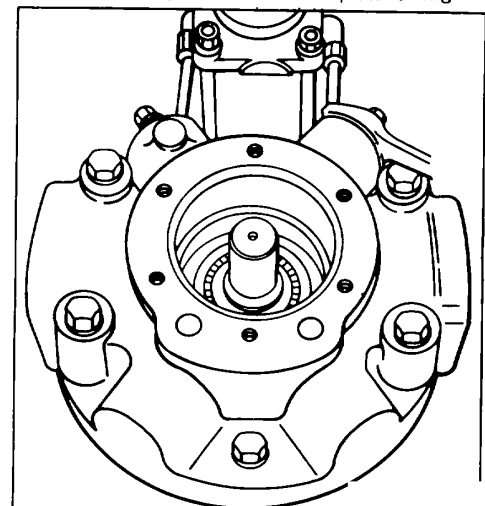

Figure 110
4. Remove control sense lines (8) (if applicable) from tube fittings (9). Remove check valve assemblies consisting of check valve plugs (61), O-rings (62), valve springs (60) and plungers (59). See Fig. 110.